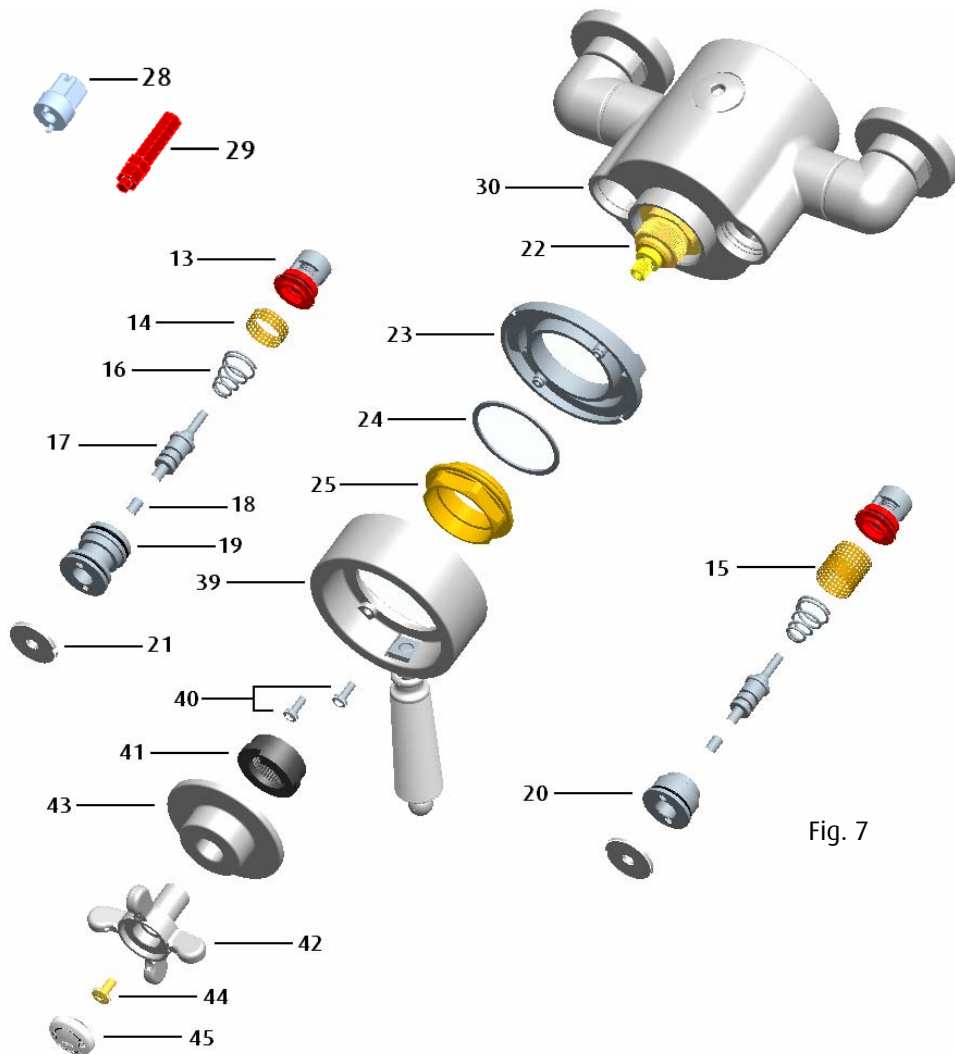

Fig. 7
7.2.1 Check hot and cold inlet valves (13 Fig. 7 on page 17) are free of debris (See 8.7 on page 17).
7.3.1 Check that the filters (14 & 15 Fig. 7 on page 17) are not blocked (See 8.6 on page 17).
8.6 Cleaning the Filters (See Fig. 7)
8.7 Flow Valve Maintenance (See Fig. 7)